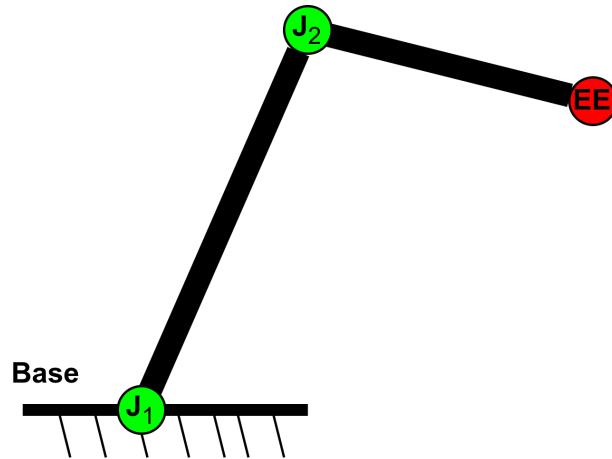

Figure 1: Drawing of the robot with *base* frame, two joints (green circles), and end-effector *EE* (red circle).
Imagine the robot in Fig. 1. Your task is to calibrate Denavit-Hartenberg parameters (DH) of the links J_1 and J_2 . **Describe shortly the scenario of how you would calibrate the parameters. Use at least two different approaches**
The setup in Fig. 1 is now extended with a laser tracker to precisely measure the location of the end-effector *w.r.t* to the *base* frame of the robot.